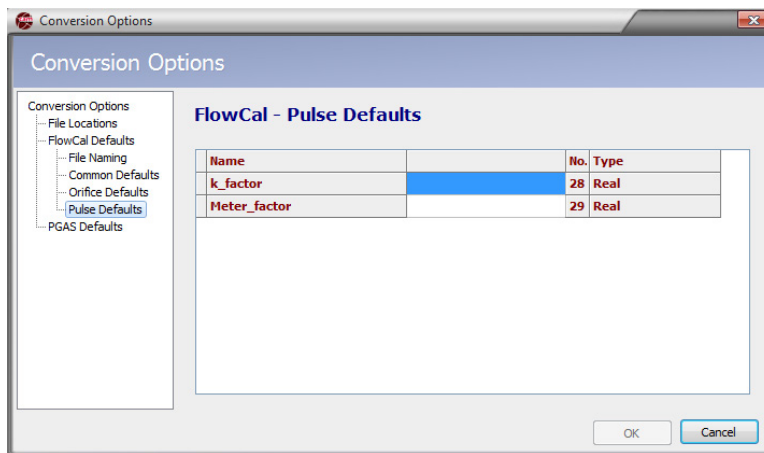

Figure 5.5—Flow-Cal Pulse Defaults dialog
- Pulse Defaults (Figure 5.5, page 59)